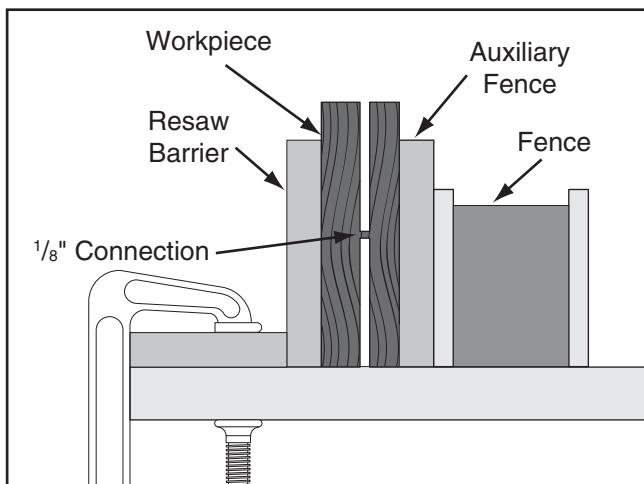

Figure 78. Ideal completed resaw cut.
7. Raise the blade approximately an inch, or close to half the height of the workpiece (**Figure 78**), whichever is less.
10. Repeat **Steps 7–9** until the blade is close to half of the height of the board to be resawn. The ideal completed resaw cut will leave an $1/8"$ connection when the resawing is complete as shown in **Figure 78**. Leaving an $1/8"$ connection will reduce the risk of kickback.